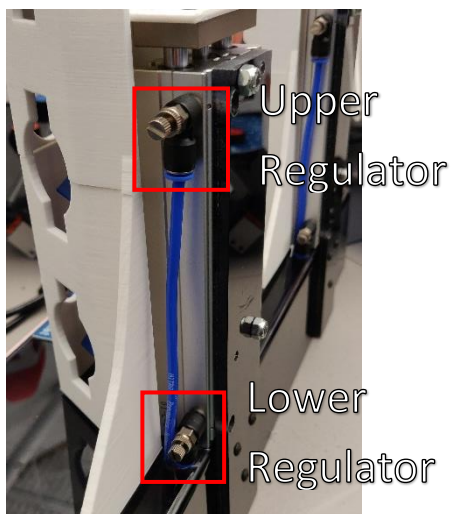

Figure 2
- a. Flow regulator at base of pistons must be screwed most of the way in. See Fig. 2 lower square.
- b. Flow regulator at top of pistons must be unscrewed most of the way. See Fig. 2 upper square.